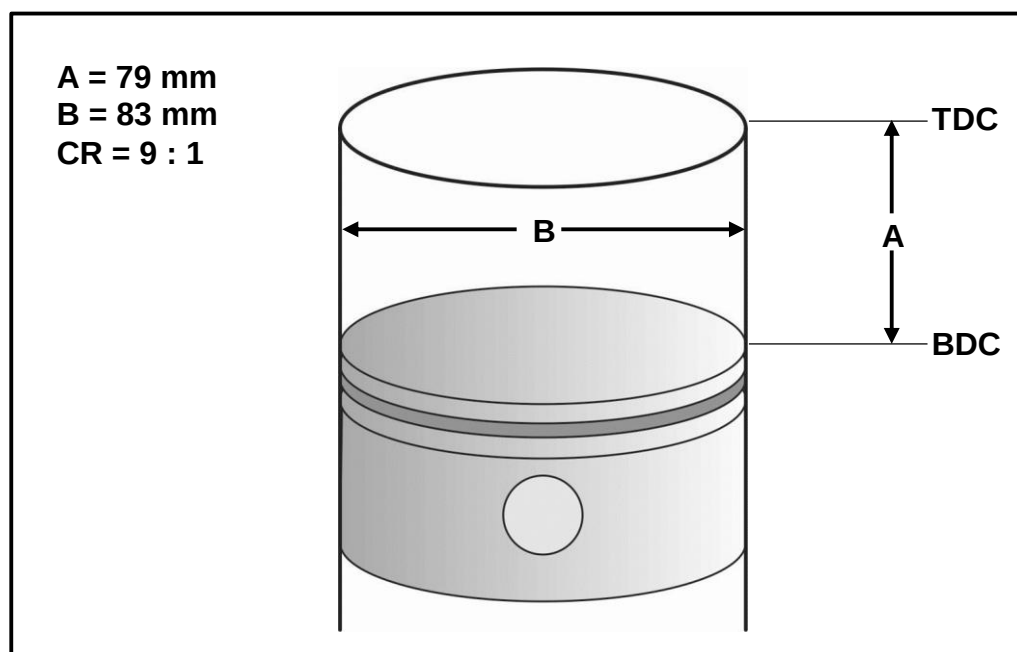

FIGURE 7.4
7.4 FIGURE 7.4 below shows a cylinder. Answer the questions that follow.